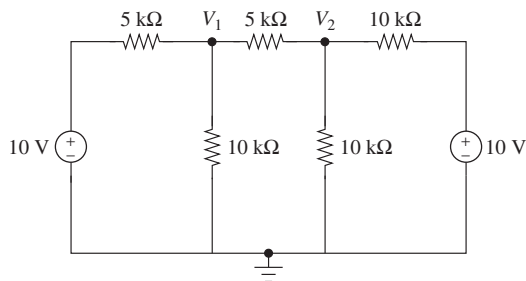

Figure P7.5 Two-node circuit for problem P7-5.
- 7-5.** Consider the two-node circuit shown in Fig. P7.5. The voltages V_1 and V_2 (in volts) satisfy the following system of equations: